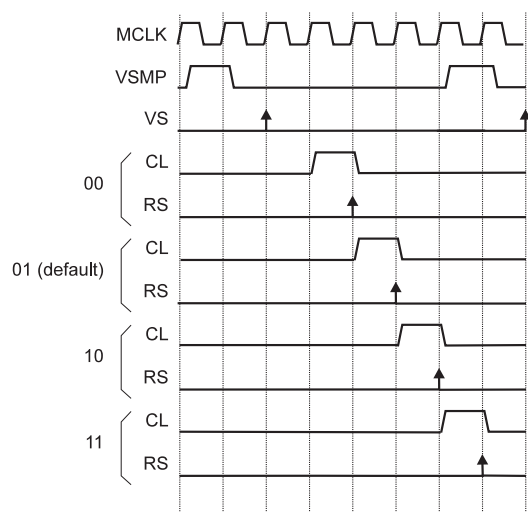
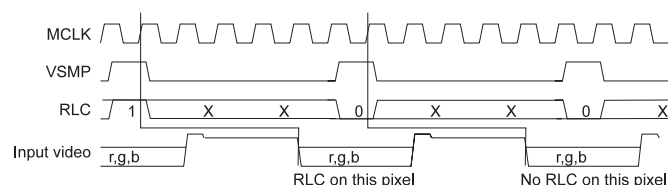

Figure 4: Reset Sample and Clamp Timing
Figure 6: RLC Timing
The position of the clamp relative to the video sample is programmable by CDSREF1-0 (see Table 7). By default, the reset sample occurs on the fourth MCLK rising edge after VSMP. The relative timing between the reset sample (RS) and video sample (VS) can be altered as shown in Figure 4.
A reset level clamp is activated if the RLC pin is high on an MCLK rising edge (Figure 6). By default this initiates an internal clamp pulse three MCLK pulses later (Figure 4: CL). The relationship between CL and RS is fixed. Therefore altering the RS position also alters the CL position (Figure 4). Table 7 shows the three possible voltages to which the reset level can be clamped.